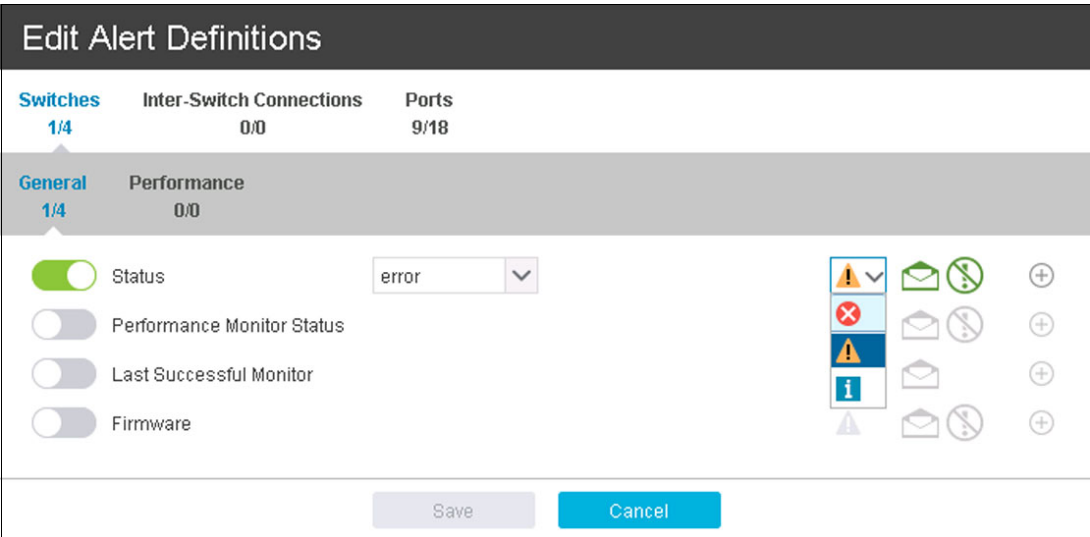

Figure 6-44 Changing the alert severity
7. You can also modify the severity of each specific alert, allowing you to align them according to your own organization's needs. In order to do so, click the **Severity** icon, as shown in Figure 6-44.